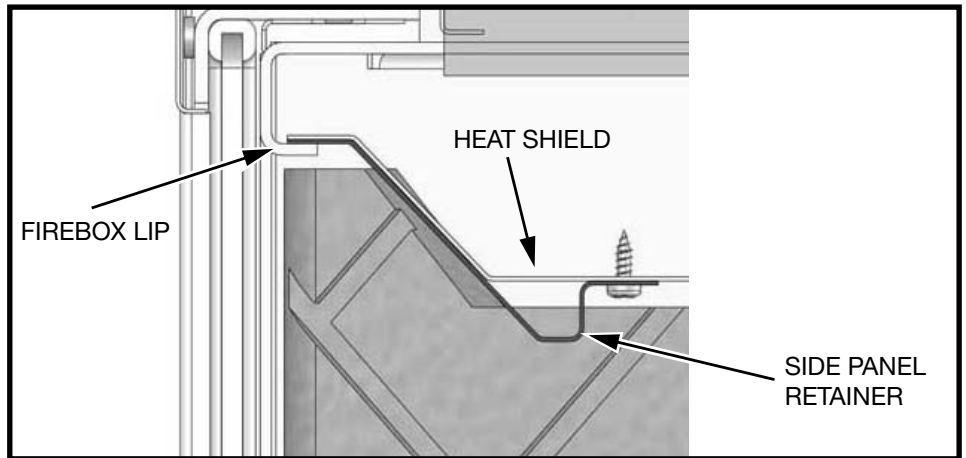
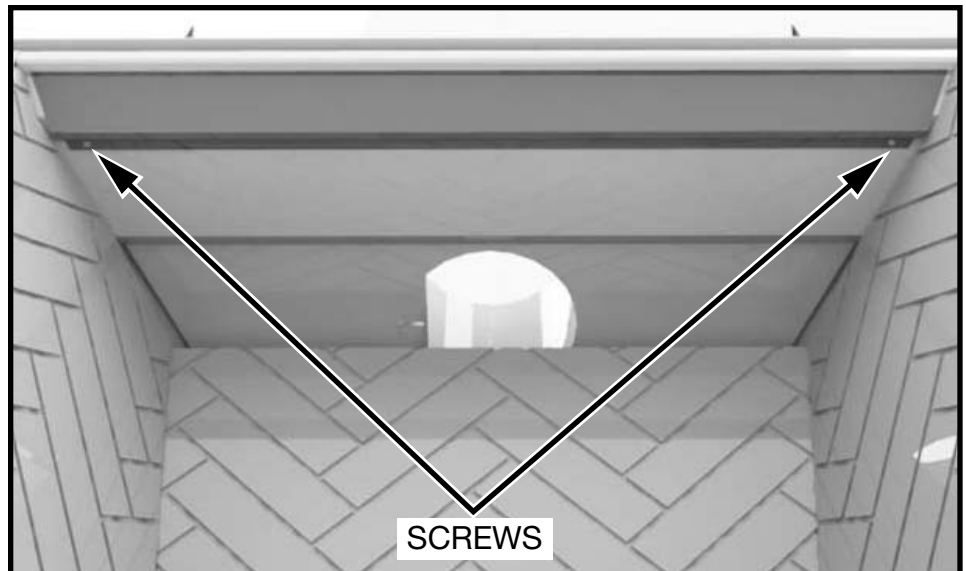

Figure 49: Side retainer.
Figure 50: Retainer panel screws location.
1. Remove the Side Panel Retainer located on the underside of the firebox heat shield (Figure 49). The retainer slips between the lip of the firebox and the heat shield and is retained in place by two screws (Figure 50).